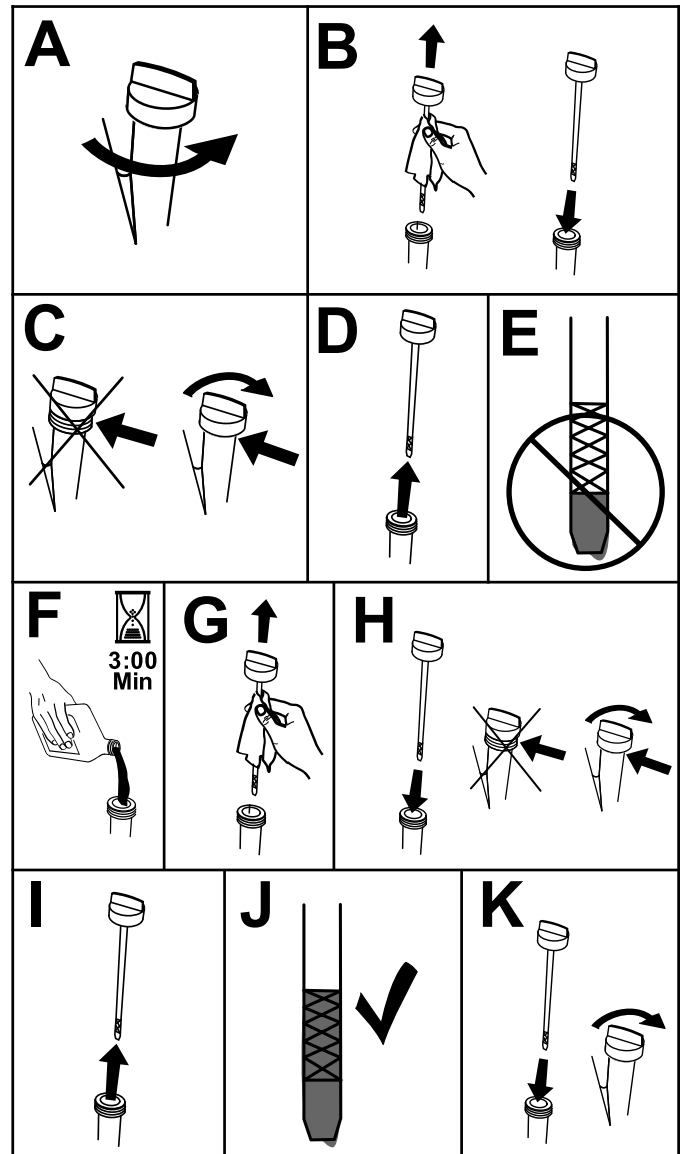

Figure 68
3. Check the engine-oil level as shown in (Figure 68).